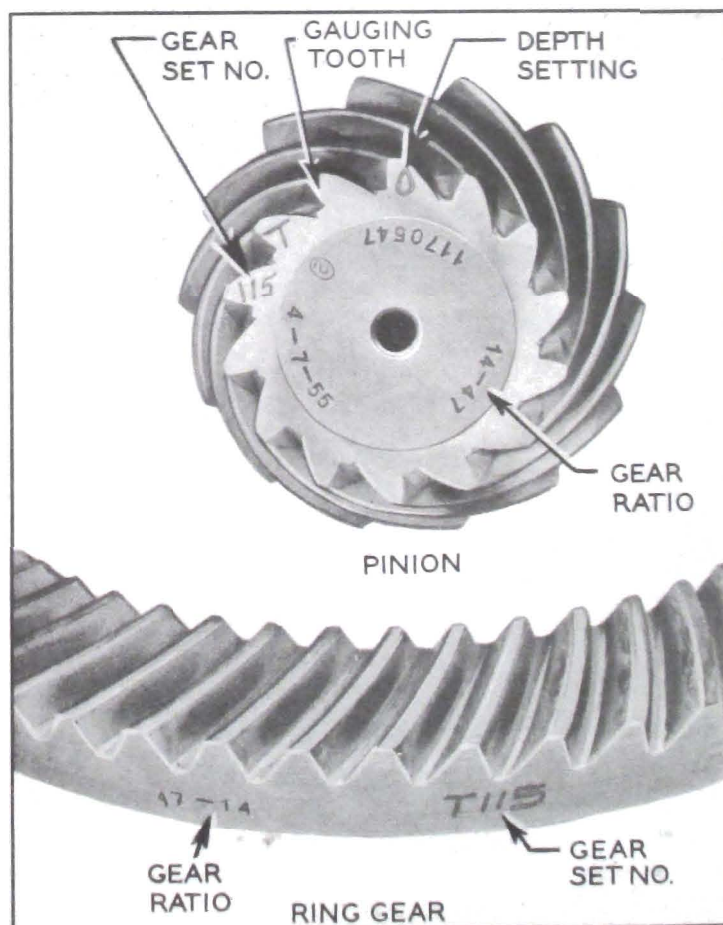

Figure 6-27—Ring and Pinion Gear Set Markings
All Buick ring and pinion gear sets are selectively matched for best operating position and proper tooth contact. After matching, a serial number is etched on one tooth of pinion and on rear face of gear to aid in keeping matched parts together. See Figure 6-27. Parts having different serial numbers must never be used together.
This variation in thousandths of an inch over or under the "nominal" setting is etched on the small end of a pinion tooth. See figure 6-27. When a pinion is marked "+" (plus) it means that the rear face of the pinion when pressed in the carrier must be at the "nominal" distance from the centerline of the side bearing pedestals *plus* the amount indicated on the pinion tooth. When a pinion is marked "-"
7. Rotate the pinion until the blank tooth between the matching number and the pinion setting mark is slightly counterclockwise of top center (at about 11 o'clock). This tooth is called the gauging tooth (Fig. 6-27) because it is used for locating and gauging during production and should therefore be used for gauging in service.
3. Check matching numbers on ring gear and pinion to make sure the two parts have not been mixed with another gear set. See figure 6-27.